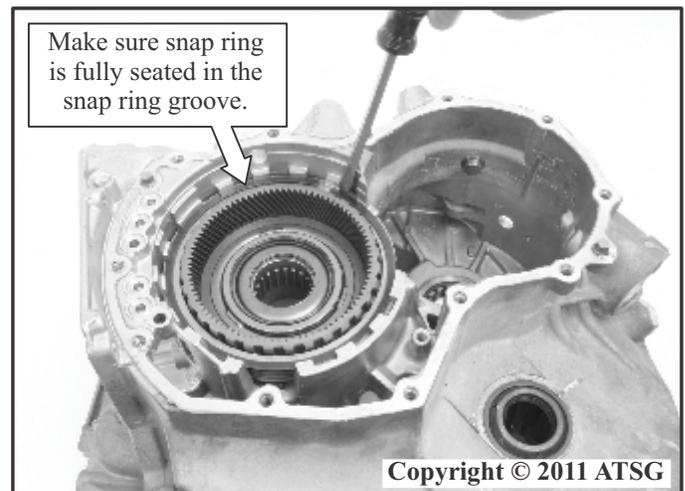

Figure 213
15. Make sure the snap ring is fully seated in the snap ring groove in the case as shown in Figure 213.